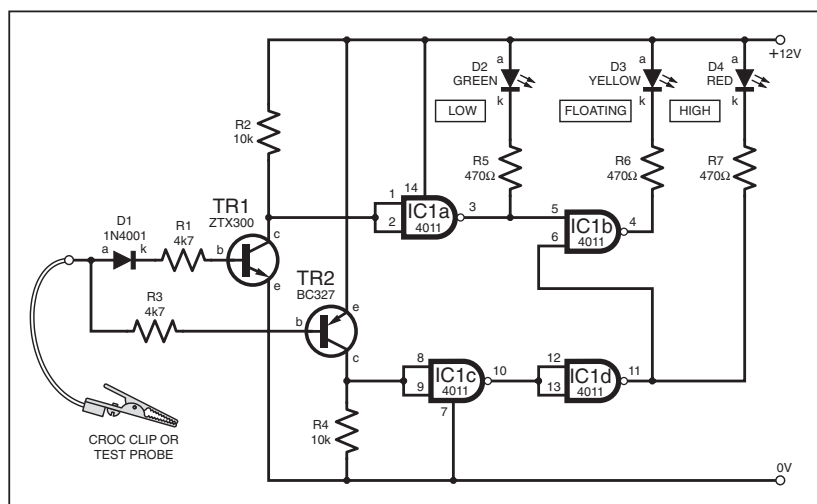

Fig.1. Circuit diagram for the Three-State Vehicle Probe.
**T**HE simple probe circuit of Fig.1 was designed for use in tracing 6V or 12V vehicle wiring. Basic probes have a crocodile clip which is connected to ground (chassis) while a single bulb or l.e.d. illuminates when the probe makes a positive connection. If the indicator does not light up, then the probe is assumed to be making a ground connection.